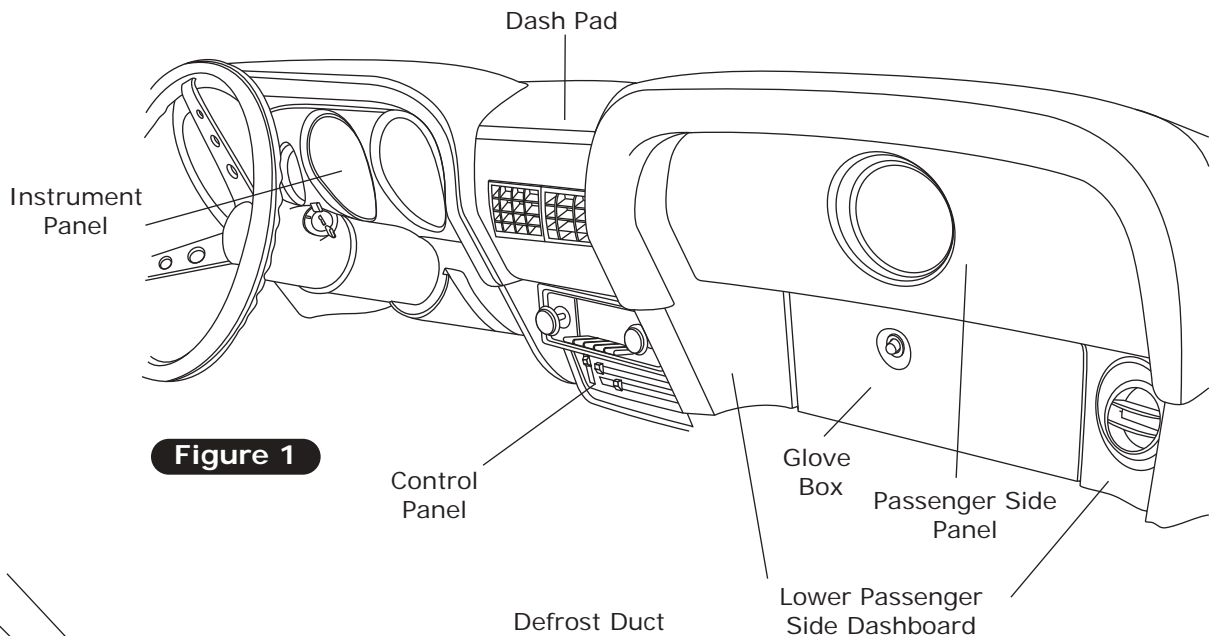

Figure 1
4. Remove the control panel assembly (retain the control panel) (See Figure 1, below).